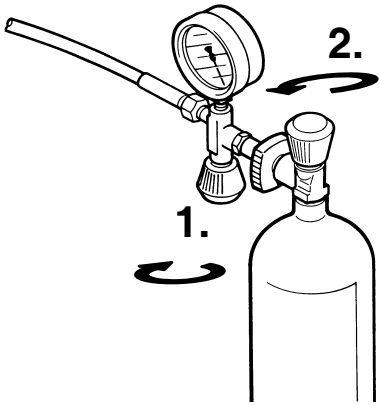

Fig. 25 Filling air bottle
- Open filling valve (1, Fig. 25).
- Open bottle valve (2) - bottle will be filled. Drain condensate regularly during filling. On units with automatic condensate drain check that condensate is drained regularly.